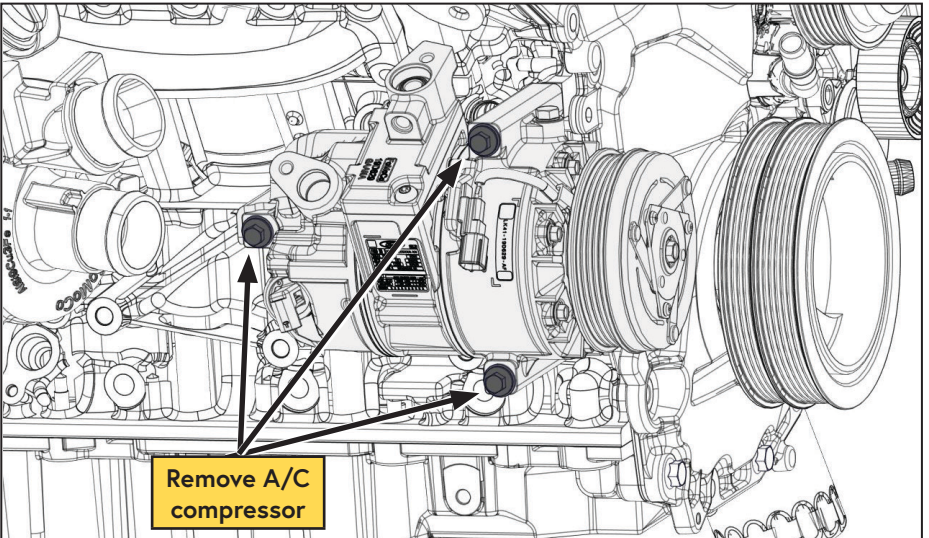

Figure 18 — Remove A/C compressor
- Leaving the A/C lines connected, remove the A/C compressor and secure it up and out of the way (Figure 18).